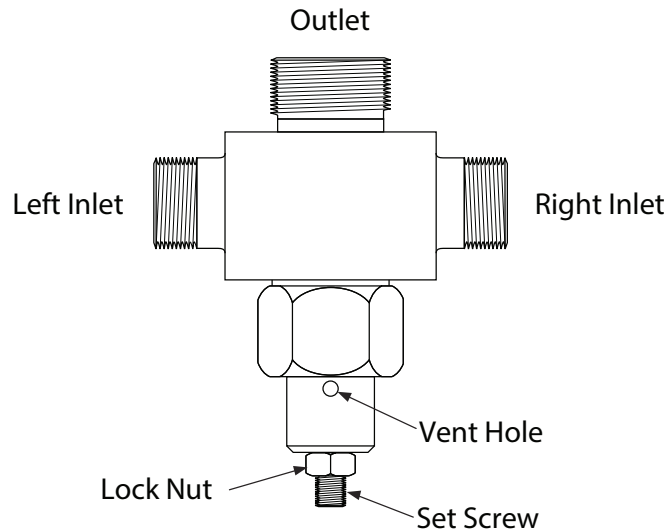

Figure 8: Switch Unit
1. Remove both left and right delivery regulators, diversion valve, and inlet regulators as shown in Figure 8.
4. Reinstall the line regulator and inlet regulators as shown in Figure 8.